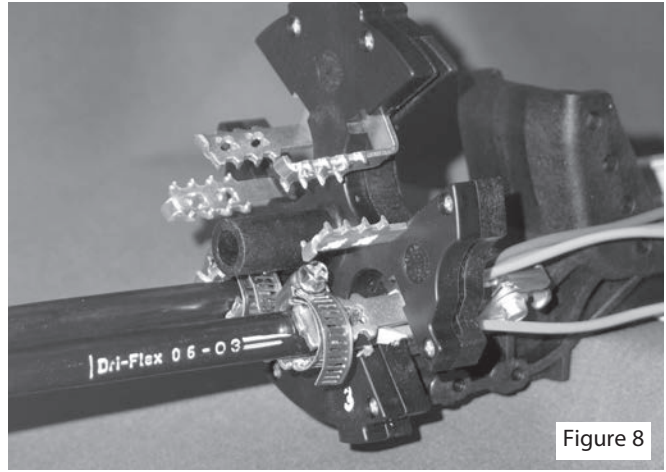

Figure 8
- Place the cables between the cable retention brackets. Secure the cables with the supplied hose clamp. (Fig. 8) Tighten the clamp such that the retention teeth fully seat into the cable assembly. Do not tighten to the point that the clamp deforms.
Note: The head of the hose clamp has to be positioned on top of the cable retention bracket. Otherwise it might interfere with the base when assembled. (See Fig. 8)